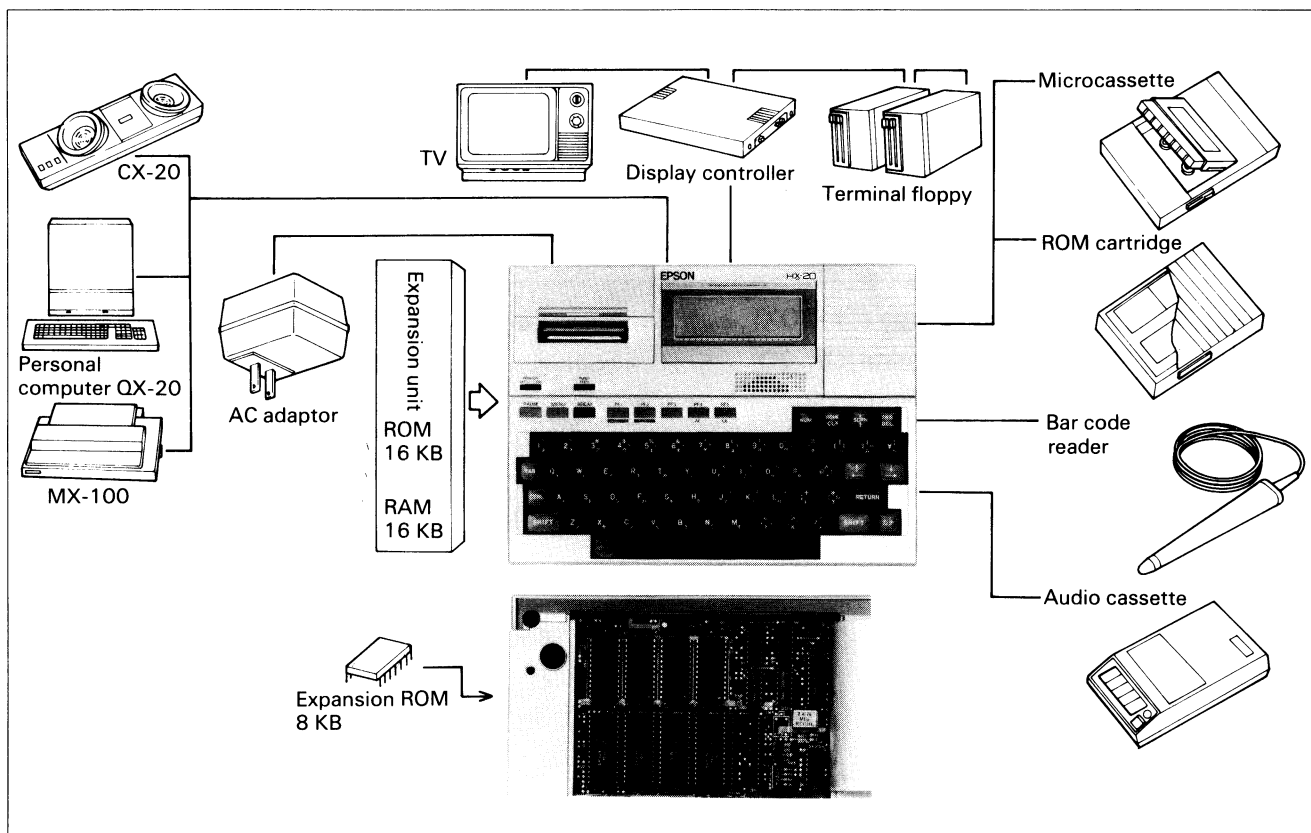

Fig. 1-1
The HX-20 normally consists of ① a 24 characters per line microprinter, ② liquid crystal display (20 characters × 4 lines to display 80 characters), ③ typewriter type keyboard (with 68 keys), ④ RS-232C interface, ⑤ high-speed serial interface, ⑥ cartridge (ROM or microcassette) interface, ⑦ audio cassette interface, ⑧ bar code reader interface, ⑨ ROM (32 KB), and ⑩ RAM (16 KB), and permits system configuration that is extendable as shown in Fig. 1-1.